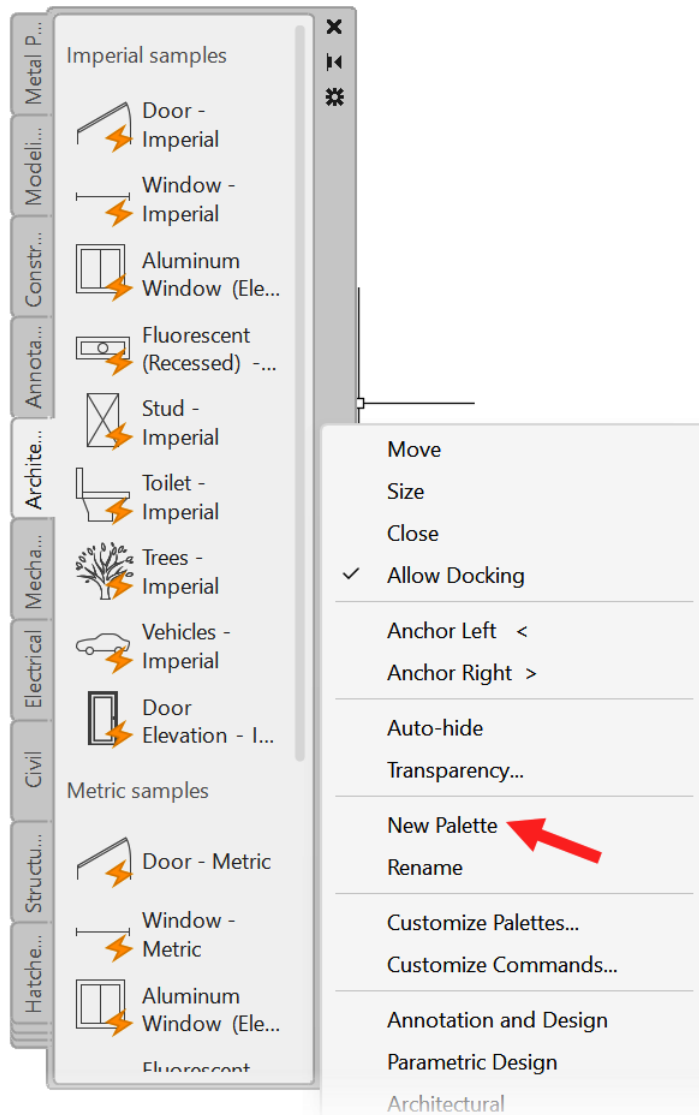

Figure 9.27: The Tool Palettes menu, with New Palette arrowed
6. Right-click on the **Tool Palettes** title bar, and another menu appears. Select **New Palette**, as shown in *Figure 9.27*.